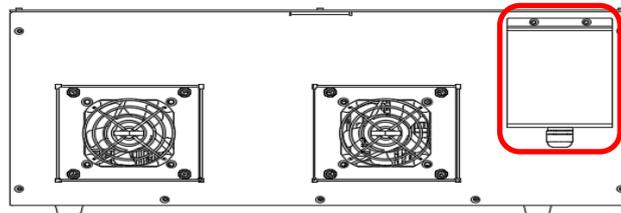

Figure 7.3 User side AC power in terminal
1. There is a terminal interface on the controller for customers to install the cables for the main power circuit in figure 7.3.